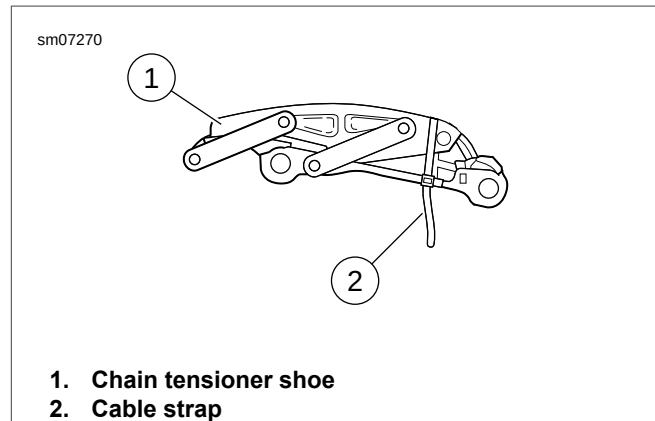

Figure 5-17. Securing Chain Tensioner
16. See Figure 5-17. Push shoe (1) down until it contacts wedge. Keep tension on shoe so wedge stays in place.
17. Install cable strap (2) as shown. Exposed portion below cover will flag need for removal before cover installation.